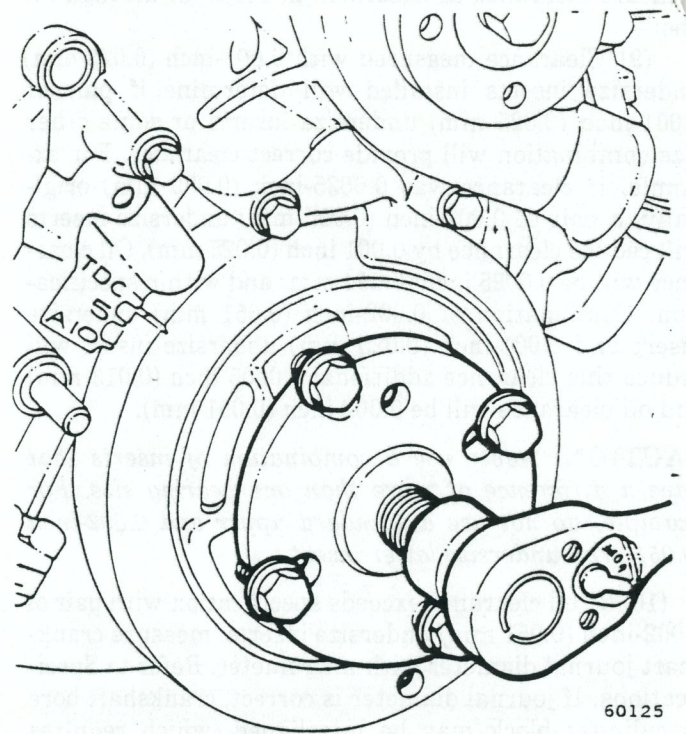

Fig. 1B-151 Vibration Damper Removal
- (1) Loosen damper retaining screw.
- (2) Loosen alternator drive belt.
- (3) Loosen air conditioner compressor drive belt, if equipped, and move aside.
- (4) Loosen power steering pump drive belt, if equipped, and move aside.
- (5) Remove damper pulley retaining bolts. Remove damper pulley from damper.
- (6) Remove damper retaining screw and washer and loosely install screw to prevent damage to screw threads when removal tool is used.
- (7) Use Vibration Damper Removal Tool J-21791 to remove damper from crankshaft (fig. 1B-151).